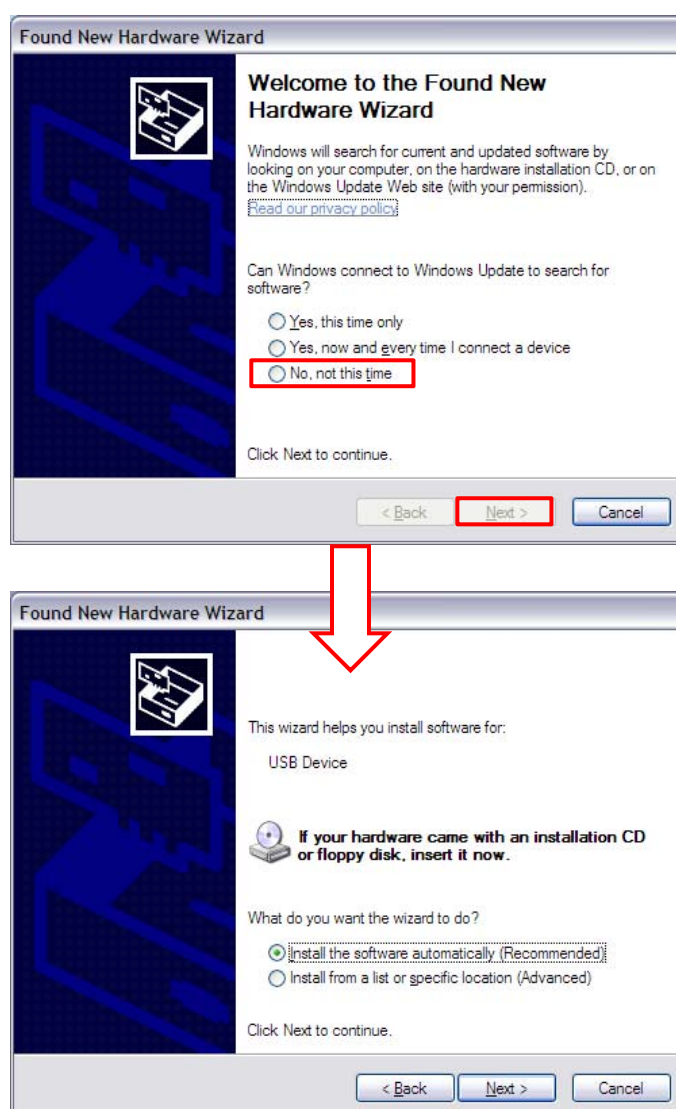

Fig.4-3 Screen for Installing
- Select [Install the software automatically (Recommended)] in the screen above (See Fig.4-3).